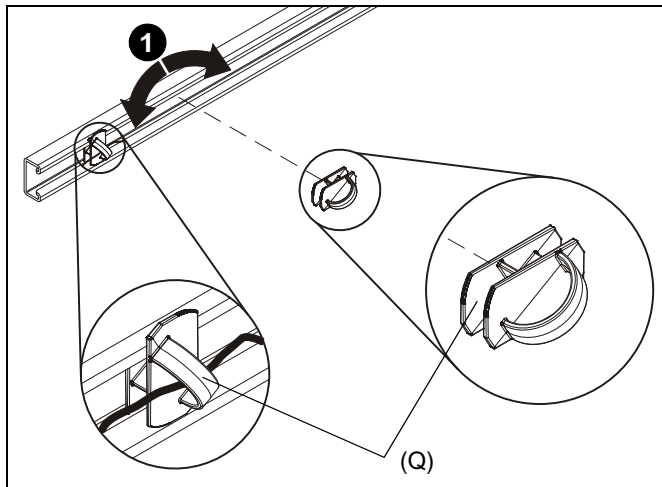

Figure 19
1. Place cable clip (Q) into rail/strut channel and turn 90° in either direction until cable clip is vertical. (See Figure 19)
3. Fasten cables and cords to cable clips (Q) using cable ties (P).